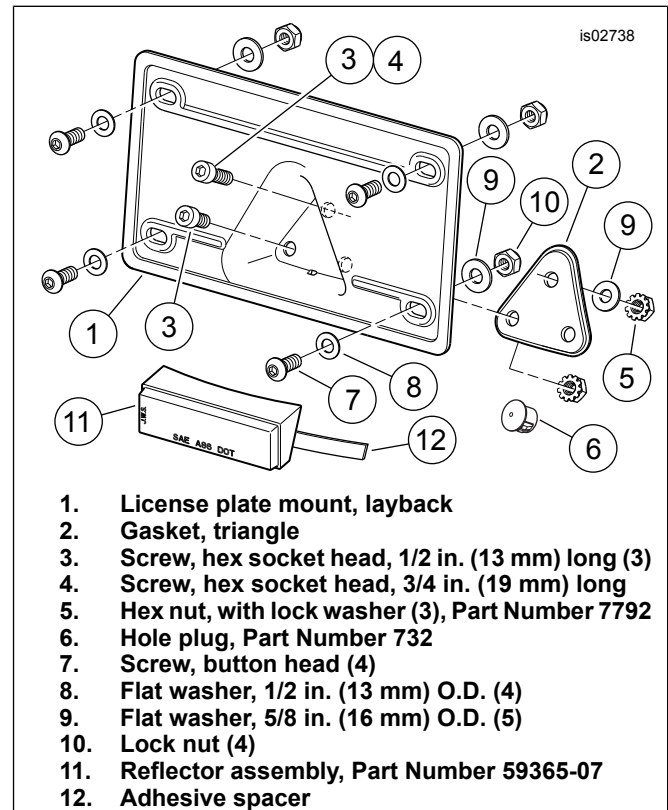

Figure 1. Layback License Plate Mount Components
See Figure 1.
2. See Figure 1. Fasten the new license-plate mount to the rear fender:
- a. **For 2002 and later Dyna, AND 2004 and later Sportster models:** Insert the hole plug (6) into the hole in the fender to the left of the two lower license-plate mounting holes.
- b. **For all models EXCEPT Sportster:** Fasten the triangle gasket (2) and license-plate mount (1) to the fender using three **1/2-in. long** screws (3) and hex nuts with lock washers (5) from the kit. Tighten securely.
- c. **For Sportster models only:** Fasten the triangle gasket (2) and license-plate mount (1) to the fender using the **3/4-in. long** screw (4), a **large diameter** flat washer (9), and a hex nut with lock washer (5) from the kit **in the TOP hole**. Do not fully tighten. Fasten the license-plate mount and gasket to the fender at the lower two holes using two 1/2-in. long screws (3) and two hex nuts with lock washers (5). Tighten all three screws securely.